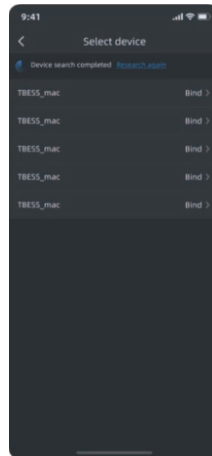

Figure 2
2) Figure 2: Display the list of searched devices, select the device to be added, click "**Bind**" to start adding; If no device is found, you can click "**Research again**" or switch the addition method.